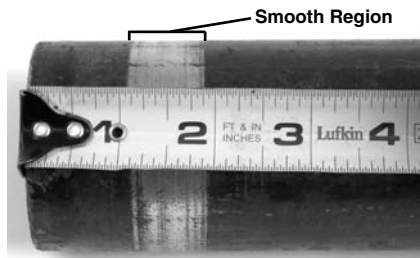

Figure 13 – Checking Proper Cleaning Location on Pipe
- Check the cleaned area on the outside of the pipe. Determine if it is in the proper location. For $\frac{1}{2}$ " to 1" pipes, the cleaned area should extend from $\frac{9}{16}$ " (14 mm) to $\frac{1}{16}$ " (27 mm) from the end of the pipe. For $1\frac{1}{4}$ " to 2" pipes, the cleaned area should extend from $1\frac{3}{16}$ " (30 mm) to $\frac{1}{16}$ " (43 mm) from the end of the pipe. This can be measured with a tape measure or with a cleaning gauge (see *Figure 13*).